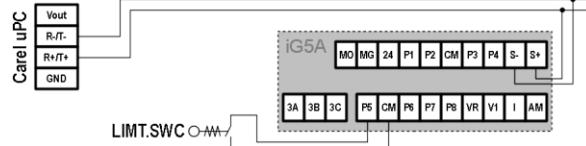

Figure 3
- Wire the communication terminal of the iG5A inverter according to the Figure 3